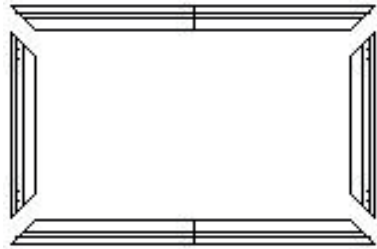

Fig 3
3. Place all four frame parts 2x (A) and 2x (B) into the final position on the floor (Fig. 3).